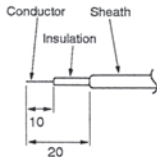
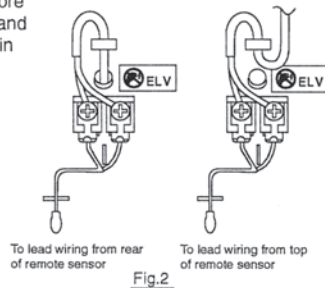

Fig.1
Fig.2
(1) Determine the installation of the remote sensor (switch box). The following items must be observed.
- ① Select a place where the remote sensor will detect an average temperature of the room, and where the sensor will not be subject to direct sunlight, heat sources, or the blow-off from the air conditioner, etc.
- ② Install the sensor within the length of the cable provided (12m). (The cable cannot be extended. If extended, it may cause misoperation due to noise.)
- ③ The following parts must be procured at the site.
(2) Connect the wires.
- Connect the 2-core cable to the terminal block in the lower case. Peel the sheath of the 2-core cable as shown in Fig.1, and correctly wire it as shown in Fig.2.